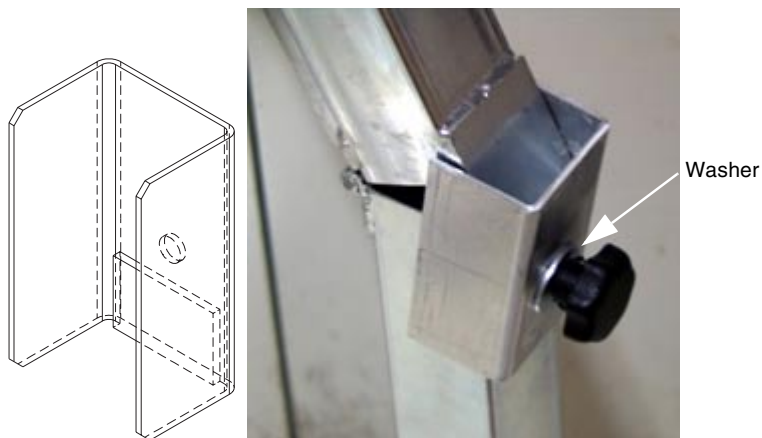

Figure 2 New Front Cover Dolly U-Bracket
- 3.) Using washer (see Figure 2), reinsert thumbscrew and tighten.